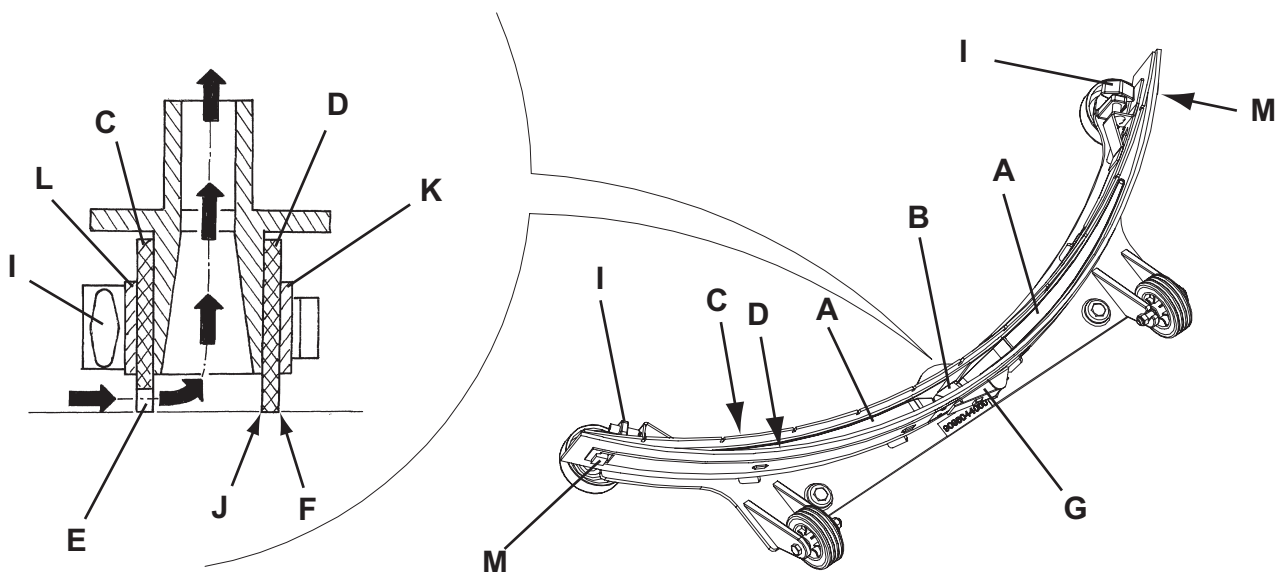

Figure 6
3. Lower the squeegee (21) with the lever (7).
4. Loosen the handwheels (22) and remove the squeegee (21).
5. Disconnect the vacuum hose (10) from the squeegee.
6. Wash and clean the squeegee (Fig. 6). In particular, clean the compartments (A) and the vacuum hole (B) from dirt and debris. Check the front blade (C) and the rear blade (D) for integrity, cuts and tears; if necessary replace them (see the procedure in the following paragraph).
1. Clean the squeegee (Fig. 6) as shown in the previous paragraph.
2. Check that the edge (E) of the front blade (C) and the edge (F) of the rear blade (D) lay down on the same level, along their length; otherwise adjust their height according to the following procedure:
- Remove the tie rod (G), disengage the retainers (M) and adjust the rear blade (D); then engage the retainers and install the tie rod.
- Loosen the handwheels (I) and adjust the front blade (C); then tighten the handwheels.
3. Check the front blade (C) and rear blade (D) for integrity, cuts and tears; if necessary replace them as shown below. Check that the front corner (J) of the rear blade is not worn; otherwise, overturn the blade to replace the worn corner with an integral one. If the other corners are worn too, replace the blade according to the following procedure:
- Remove the tie rod (G), disengage the fasteners (M) and remove the retaining strip (K), then replace/overturn the rear blade (D).
- Unscrew the handwheels (I) and remove the retaining strip (L), then replace the front blade (C).